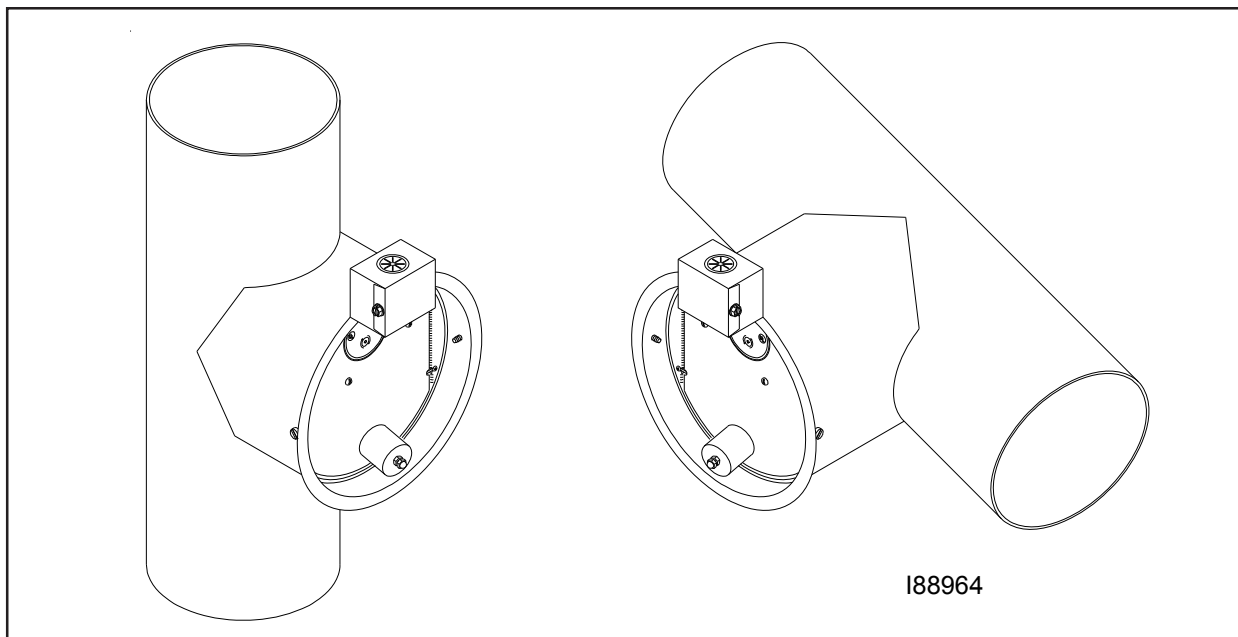

Figure 4K - Stack Safety Switch Installed on the Barometric Damper
3. Position the stack safety switch over the lip of the barometric damper as shown in Figure 4K.